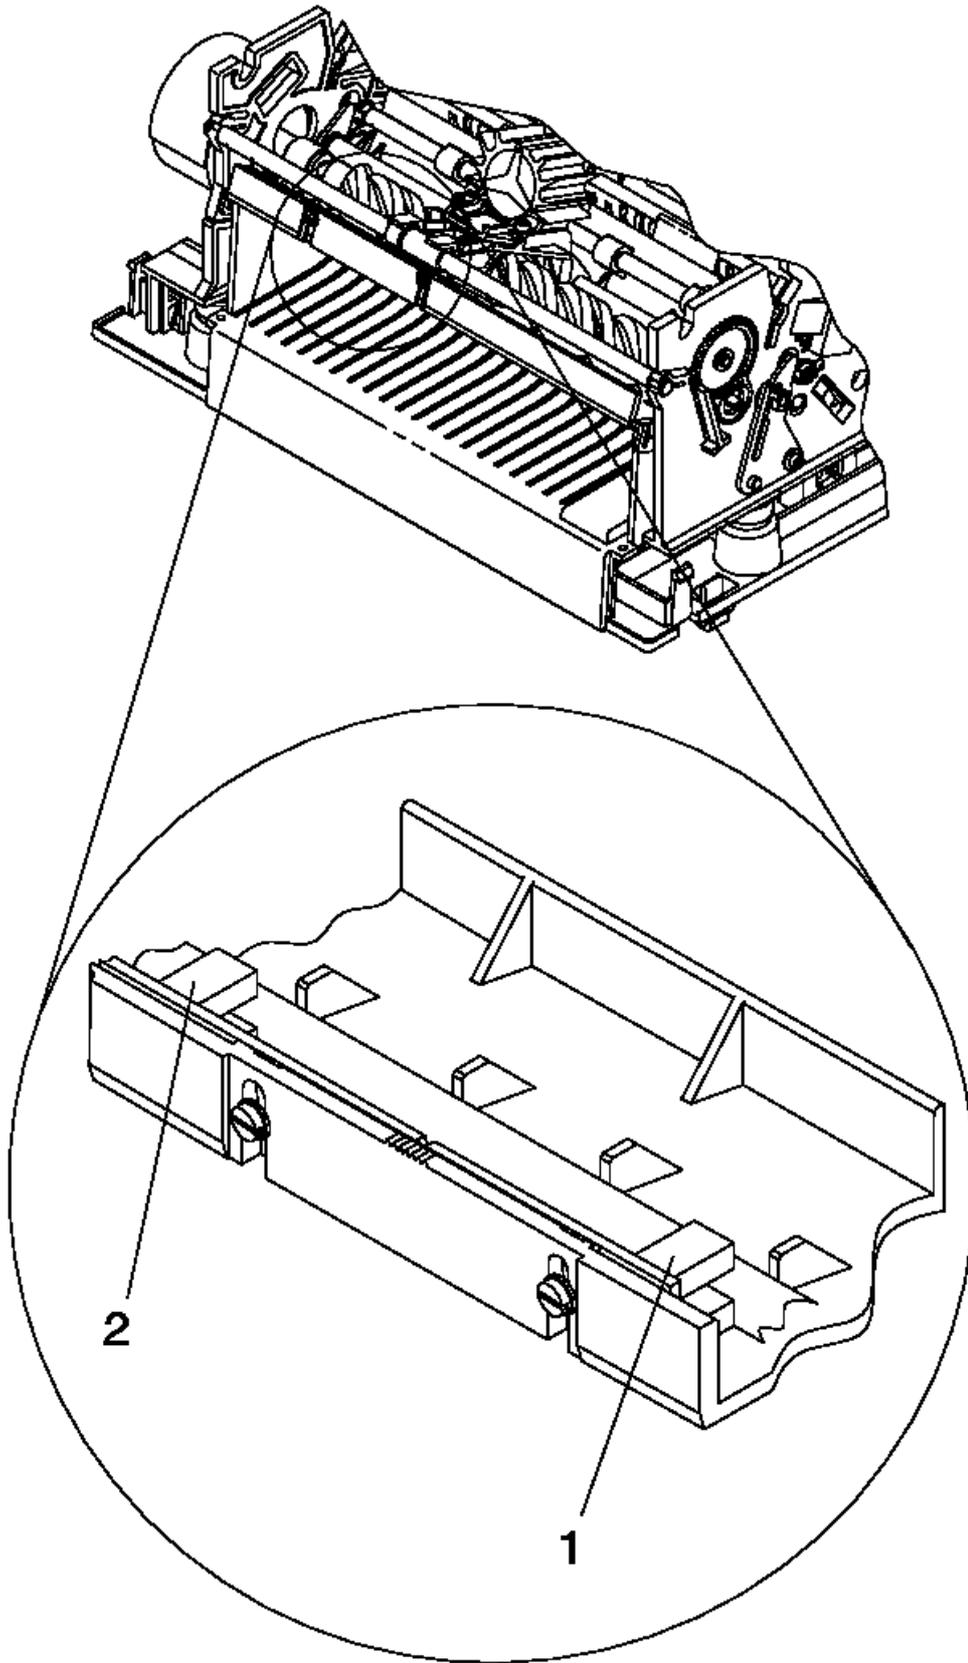

Figure 6-18. Home Sensor Card
Adjust the home sensor card so the carrier clears the sensors, (1) and (2) in Figure 6-18.